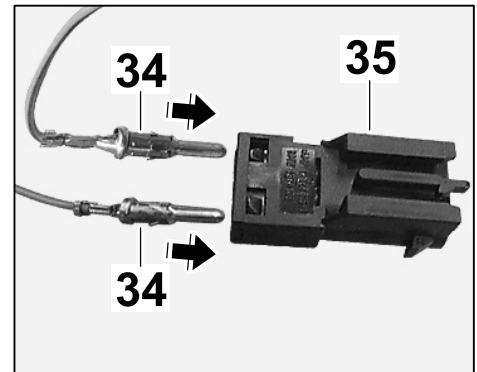

Figure 46
- 8.9.2 Insert pin contacts of lines ⇒ *Figure 46 -34-* into the 2-pin connector socket ⇒ *Figure 46 -35-* as follows: